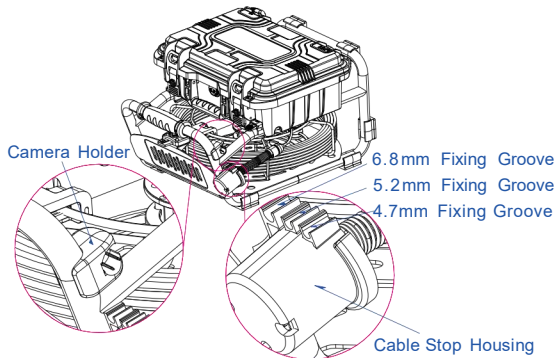

Figure 16. Fixed camera and cable
6. Fixed camera and fixed cable. (Figure 16.)